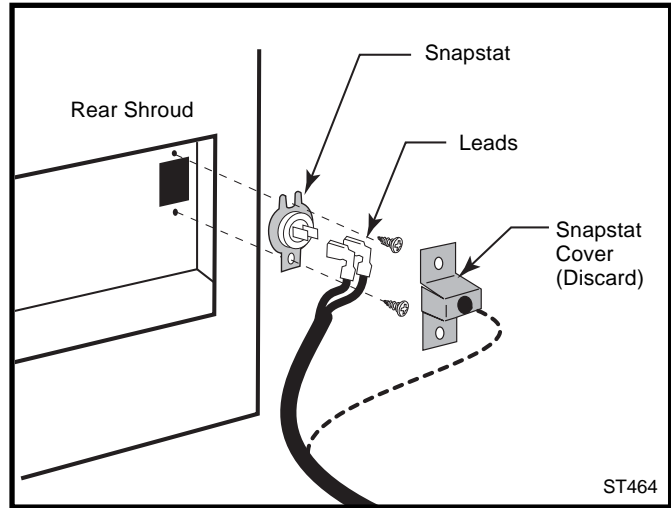

Fig. 19 Install the Snapstat.
4. Using two sheet metal screws from the fan kit, attach the Snapstat Plate to the Inner Shroud as indicated in Figure 19.